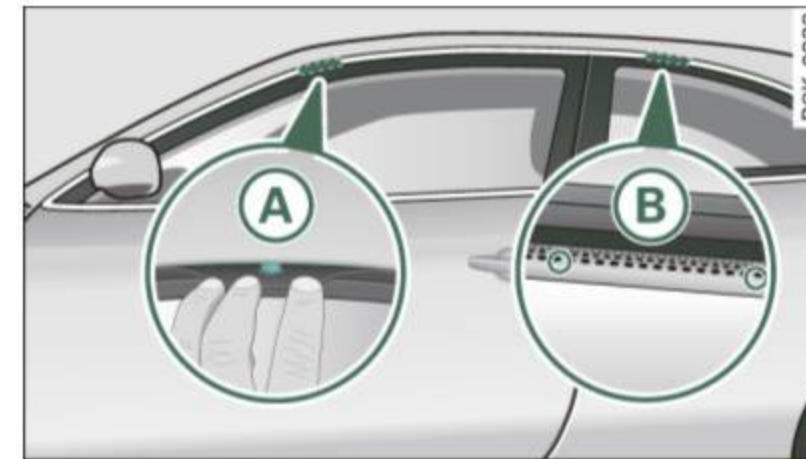

Fig. 89 Mounting locations for roof rack
- Only mount the system between the markings shown in ⇒ fig. 89.
When installing the front feet, make sure that they are positioned exactly on the positioning bolts provided (A) between the side panel and the upper roof frame ⇒ fig. 89. The bolt is visible as soon as you push back the seal from the upper roof frame using the installation tool supplied with the roof rack. The rear markings (B) are identified at the upper edge of the side glass by two small arrowheads. ►